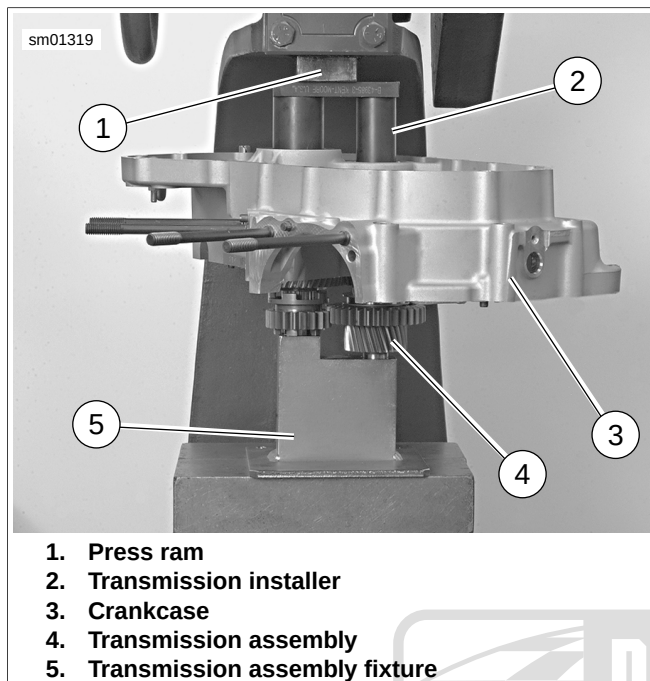

Figure 5-96. Pressing Transmission into Left Crankcase
5. See Figure 5-96. Install left crankcase (3) over transmission assembly (4).
6. Place TRANSMISSION INSTALLER (2) over mainshaft and countershaft bearings in crankcase.
7. Position crankcase and transmission assemblies on press so that transmission installer is under press ram (1).